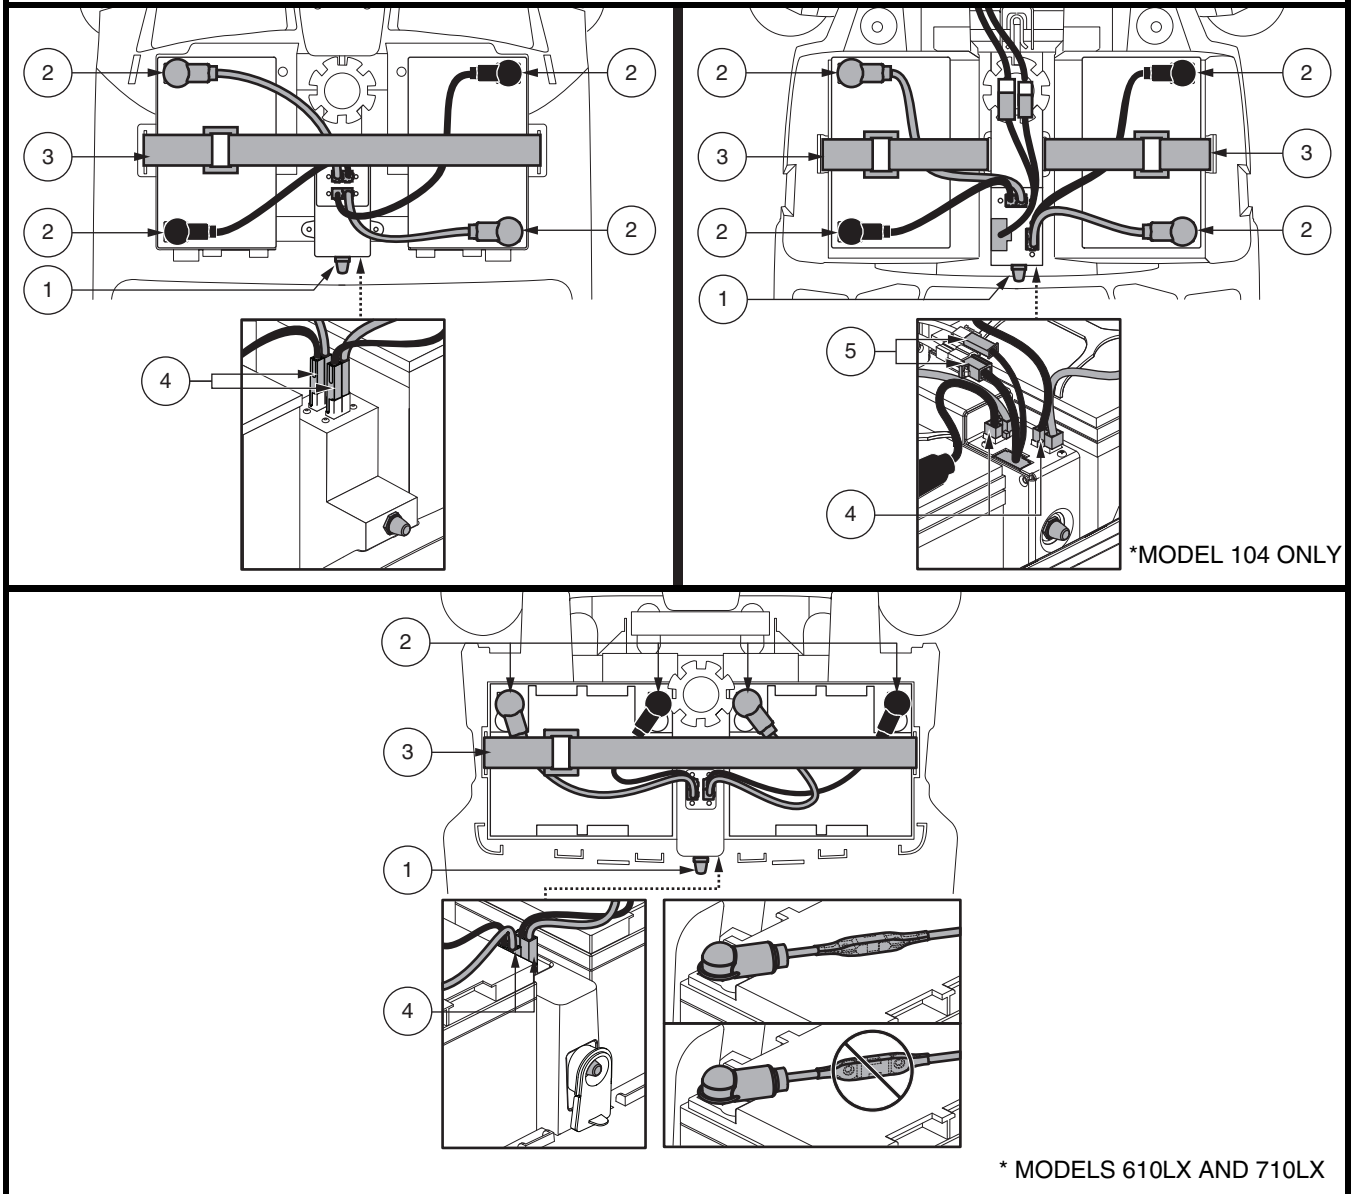

Figure 11. Battery Removal/Installation Terminals and Connections
2. Disconnect the battery tie-down strap. See **figure 11**.
3. Disconnect the battery harnesses by depressing the tabs on the battery harness connectors and pulling them straight up. See **figure 11**.
6. Place a new battery in each battery well. Face the battery terminals of each battery opposite each other and toward the outer sides of the scooter. See **figure 11**.